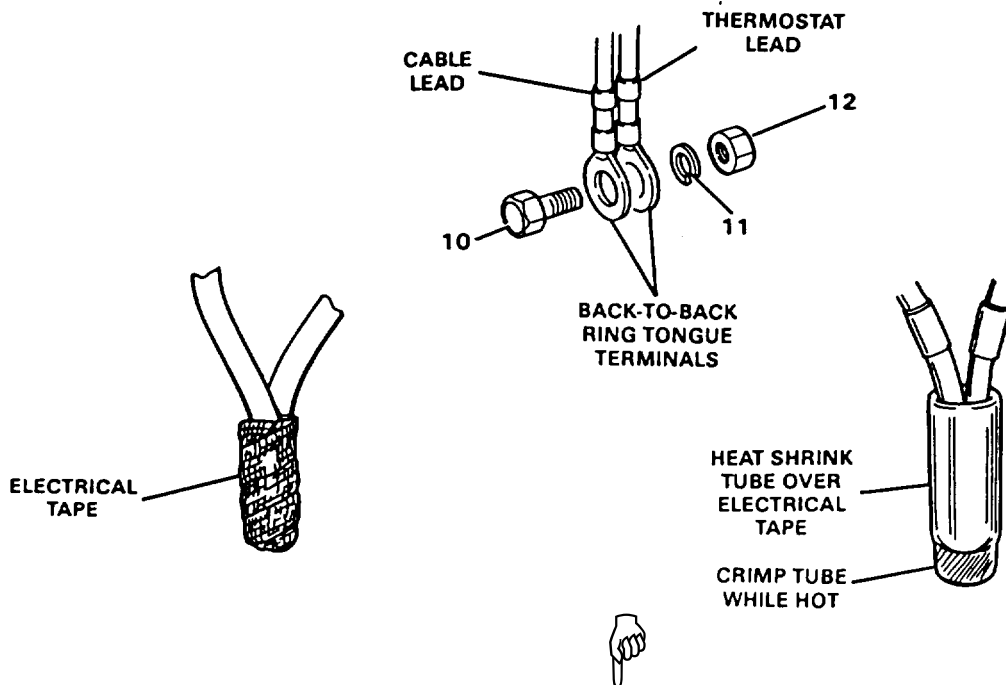

Figure 4-72. Thermostats (Sheet 3 of 3) Components
- a. Remove four screws (5) and remove cover (6) from the thermostat housing.
- b. Unscrew nut (7) and slide nut (7), retainer (8) and bushing (9) back on cable (1).
- c. Refer to Figure 4-72, sheet 2 and tag and disconnect wires from cable (1) to the thermostat (4) control leads by removing capscrew (10), lockwasher (11 ) and nut (12). Use a knife to remove the electrical tape and shrink wrapping which encloses each connection.
- d. Remove conduit nut (13) and remove elbow (14) and sealing ring (15). Do not attempt to further disassemble the thermostat.